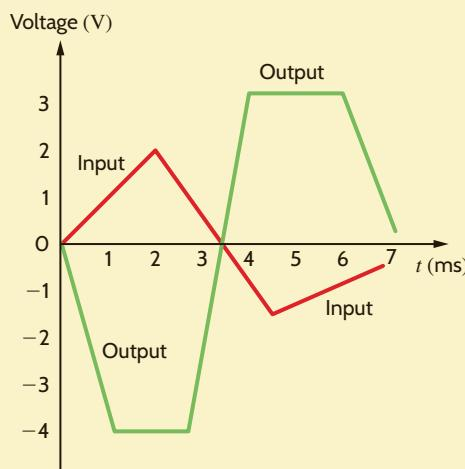

Figure 4.7
The input and output signals for an op-amp circuit are shown in **Fig. 4.7**. We wish to determine (a) if the op-amp circuit is linear and (b) the circuit's gain.
- We know that if the circuit is linear, the output must be linearly related, that is, proportional, to the input. An examination of the input and output waveforms in Fig. 4.7 clearly indicates that in the region $t = 1.25$ to 2.5 and 4 to 6 ms the output is constant while the input is changing. In this case, the op-amp circuit is in saturation and therefore not linear.